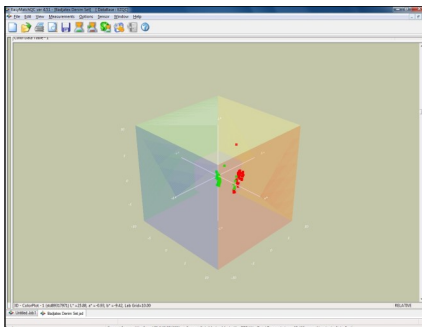

Figure 15. 3D Color Difference Plot
4. The **3D Color Plot** displays a three-dimensional representation of color space with the standard as the center point of the plot and the samples plotted on the graph. In Figure 15,  $L^*$ ,  $a^*$  and  $b^*$  are shown on the axes as labeled. The samples in the job are plotted relative to the standard and each other. The tolerance limits are shown as a magenta box (around the standard position). Rolling the mouse over a particular point will display the Sample, Pass/Fail status, and its color values.